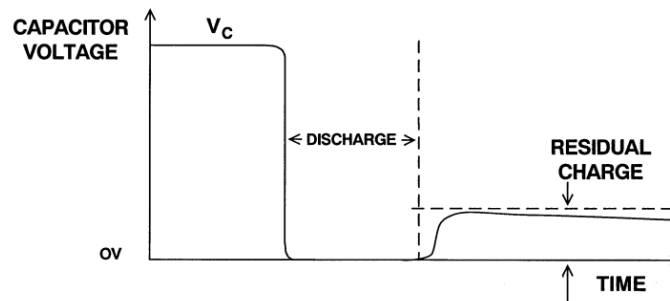

Figure 1: Dielectric Absorption
Capacitors with Dielectric Absorption (DA) recover some of their charge even after the capacitor has been fully discharged (see Figure 1). (Ref. 2) It is expressed in percentage and it is based on the measured voltage after discharging and charge recovery divided by the maximum voltage that was originally applied (see Equation 1).
Dielectric absorption measurements were performed on MLO capacitors under the test set up shown in figure 1. The test was based on MIL- C 19778. The conditions for the test were as follows: a 2"x2" laminate which serves as the core of the MLO device was charged for 1 hour charging at 250V and discharged using a 5ohm resistor. The thickness of the dielectric core is 25um. The voltage across the capacitor was measured 15 minutes after discharging the resistor.